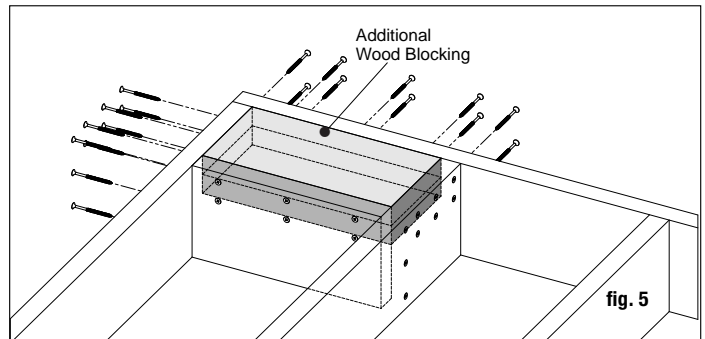

fig. 5
**Step 3 Installing Posts:** Install posts by attaching the aluminum base to the surface of the deck. Position the post so the fastener will go into the floor joist, and make sure the decking is firmly attached to the joist at the location of the posts. Proper structural blocking/ framing under the decking material is required when attaching the post to a wood frame deck because decking alone is not approved as structural framing (fig. 5).